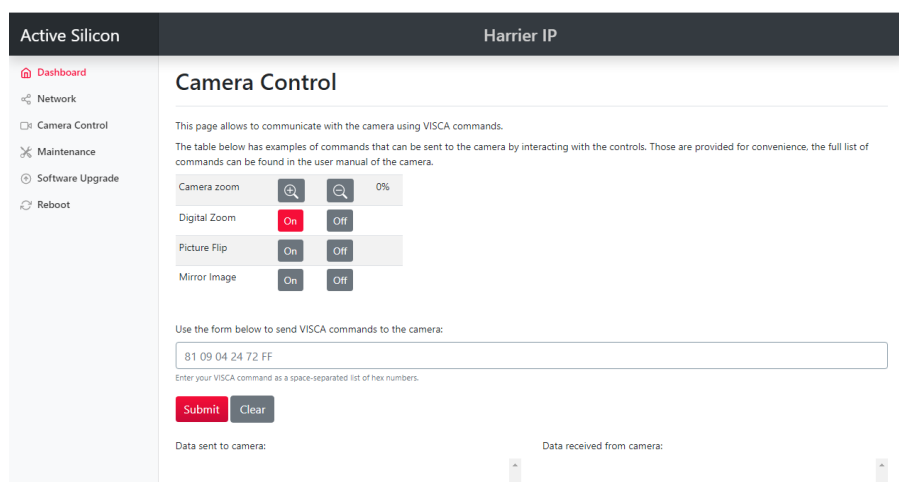

Figure 22. Harrier IP Camera Control web page
- From the menu on the left-hand side, select the 'Camera Control' page (figure 22)
The text entry box (see figure 22) allows VISCA commands/inquiries to be sent to the camera, enabling full control of all camera features (white balance, defog mode, etc.).